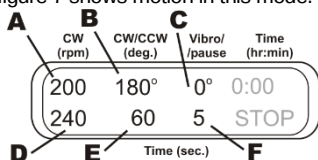
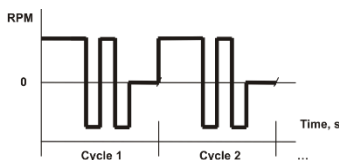

Figure 6.
Figure 7.
- 6.9.3. **Rotational + Reciprocal motions + Pause.** Set the speed (40-1000 rpm, fig. 6/A) and time (1-250 s, fig. 6/D) of rotational motion. Set the angle (30-360°, fig. 6/B) and time (1-250 s, fig. 6/E) of reciprocal motion. Reciprocal and rotational motions have the same speed. Set the turning angle of vibro motion to zero (fig. 6/C). Set the time of vibro motion (1-5 s, fig. 6/F) - this is the duration of pause. Graph in figure 7 shows motion in this mode.